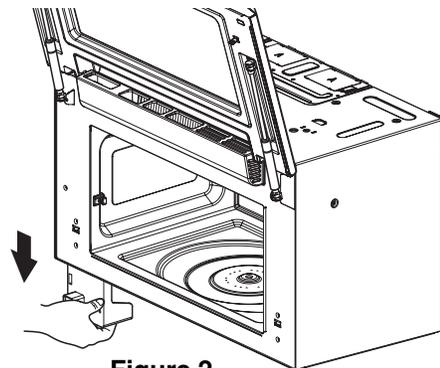

Figure 2
- (4) Release PCB board from cavity and pull down it. (Figure 2)